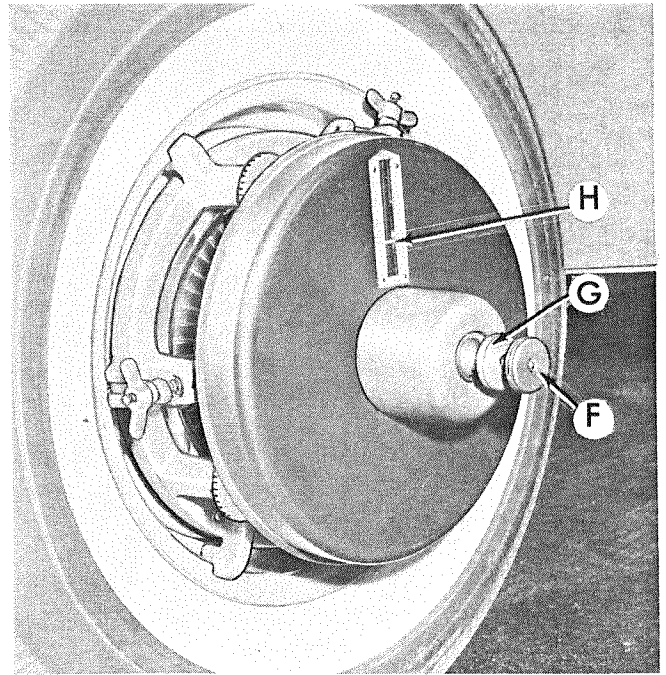
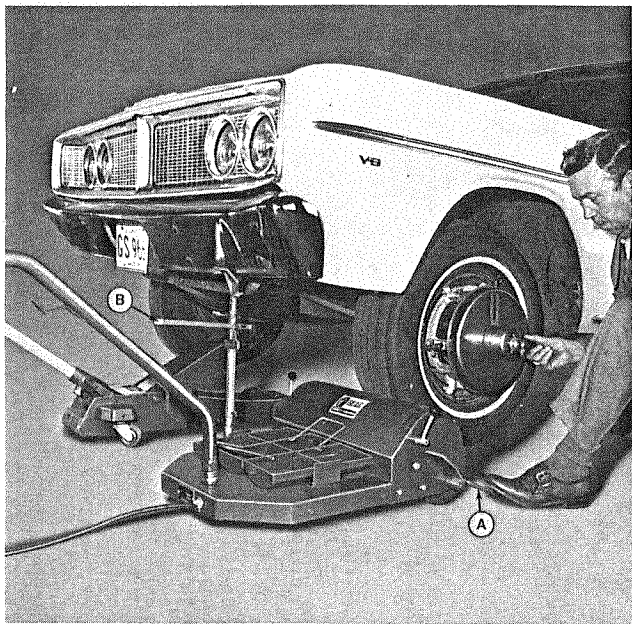

Fig. 4
Fig. 5
1. Outer knob, F Fig. 4, is weight amount control — with wheel rotated in forward direction with spinner, on right wheel you pull out to add weight; on left wheel you push in to add weight. To decrease or unload balancer, you reverse the above.
Note: Amount indicator H Fig. 4, on scale describes a faint white circle which can be observed while wheel is rotating. This circle expands when weight is added and contracts as weight is reduced, thereby showing the operator whether weight is being added or reduced and the approximate amount.
2. Inner knob, G Fig. 4, is the weight position control — with wheel rotated with spinner, pushing in or pulling out on the inner knob rotates the position of the counter weight around the balancer unit. When you push in, the counter weight revolves rapidly, when you pull out, the counter weight revolves slowly in the opposite direction. This is to facilitate proper positioning of counter weight.
2. Push in or pull out knob to add about  $1\frac{1}{2}$  oz. of weight, Fig. 5. With wheel accelerating at low speed, this will describe a white circle about 1" from bottom of scale, H Fig. 4.
3. Increase wheel speed until pointer on jiggle, B Fig. 5 (vibration indicator) vibrates.